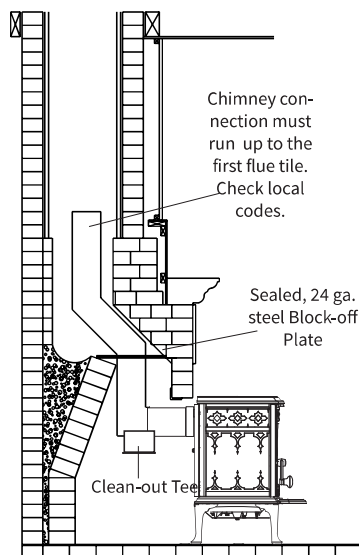

Figure 8. Connection to a masonry fireplace.
1. The fireplace damper is removed or permanently secured in the open position. A separate sheet metal block-off plate is installed in the damper area through which the chimney connector pipe will pass from the stove flue collar up to the chimney flue. See fig 8. Use high-temperature silicone to seal the seams around the plate, damper frame and connector pipe.